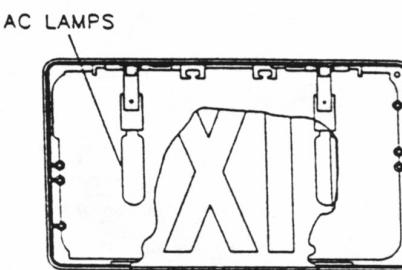

Figure 1
2. Open exit fixture, remove and discard the AC lamps. (See Figure 1)